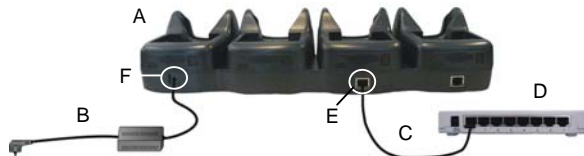

Figure 6 - Ethernet Connection
1. Connect the first Ethernet cradle to the power supply and to the Ethernet Switch as shown in Figure 6.
4. Connect additional cradles as shown in Figure 6.